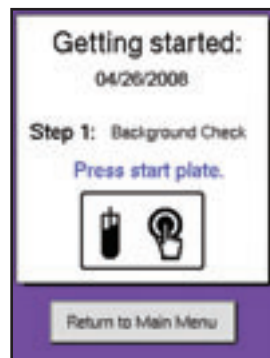

Figure 8.1
- 3 Press start plate to begin a Background Check, the first step of the startup sequence (Figures 8.1 and 8.2).